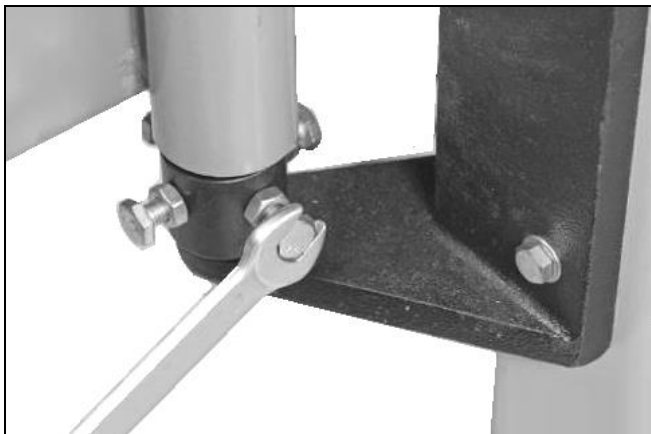

Fig 16
Place the crosscut table (A, Fig 16) onto telescopic arm support rod (B).
In case the crosscut table changed in height, this must be eliminated on the swing arm rotate axis (Fig 16).